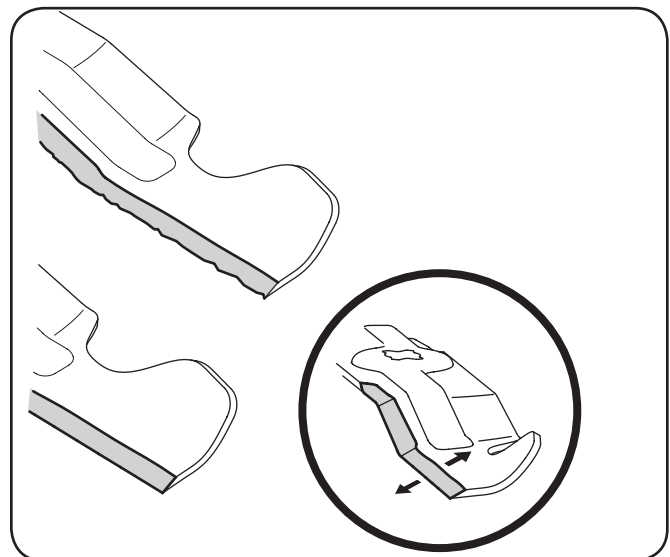

Figure 6-3
6. Replace or sharpen the blades. To properly sharpen the cutting blades, remove equal amounts of metal from both ends of the blades along the cutting edges, parallel to the trailing edge, at a 25° to 30° angle. Always grind each cutting blade edge equally to maintain proper blade balance. See Figure 6-3.